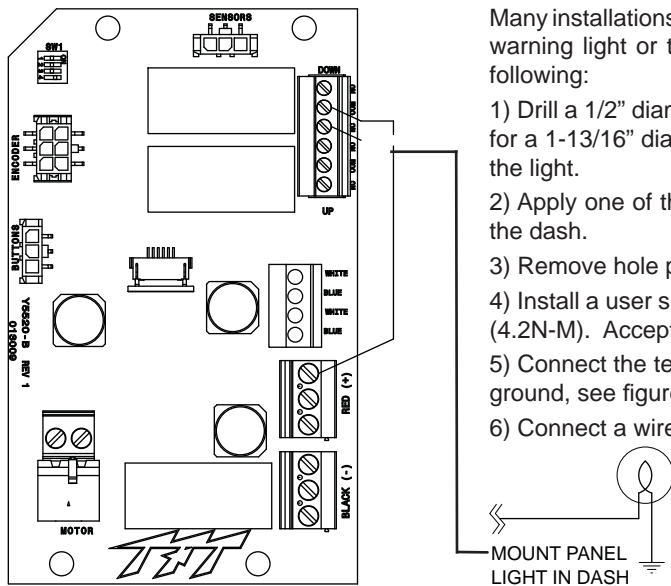

Fig 8.1
- 5) Connect the terminals on the panel light to DOWN relay NC terminal and chassis ground, see figure 8.1.